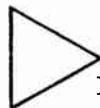

Fig. 27
27. Fig. 27 is a trapezoidal pattern indicating: